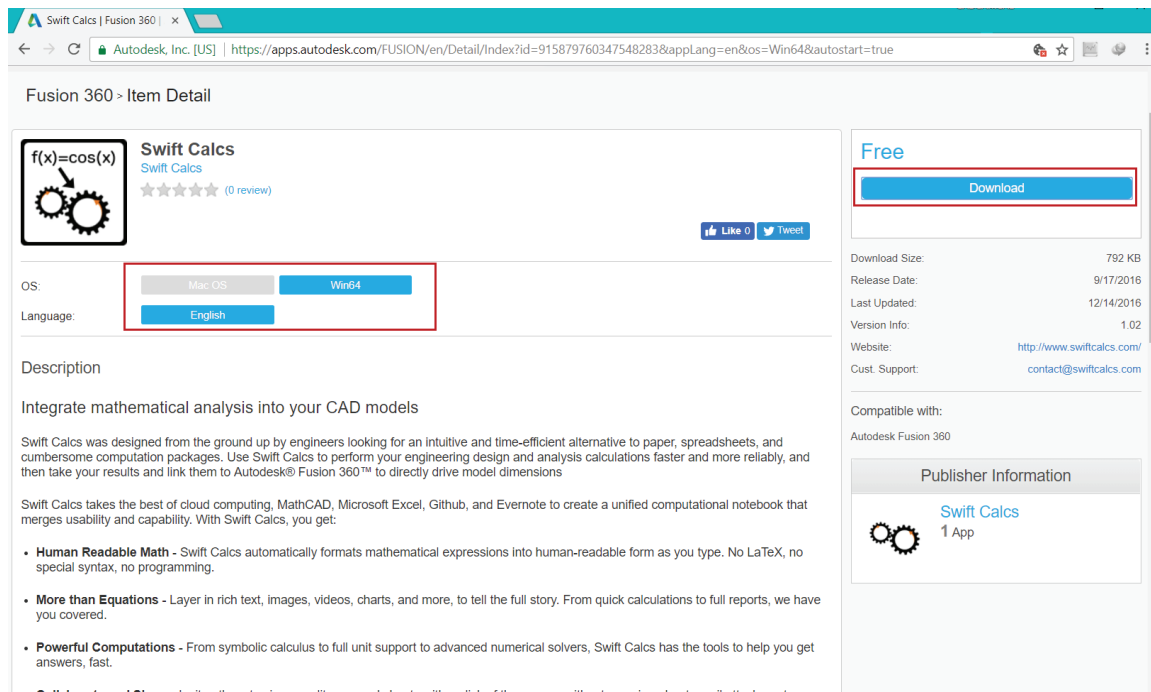

Figure-66. Downloading App
- Select the desired app, set the desired Operating system and click on the **Download** button from web page; refer to Figure-66. The software will start downloading.